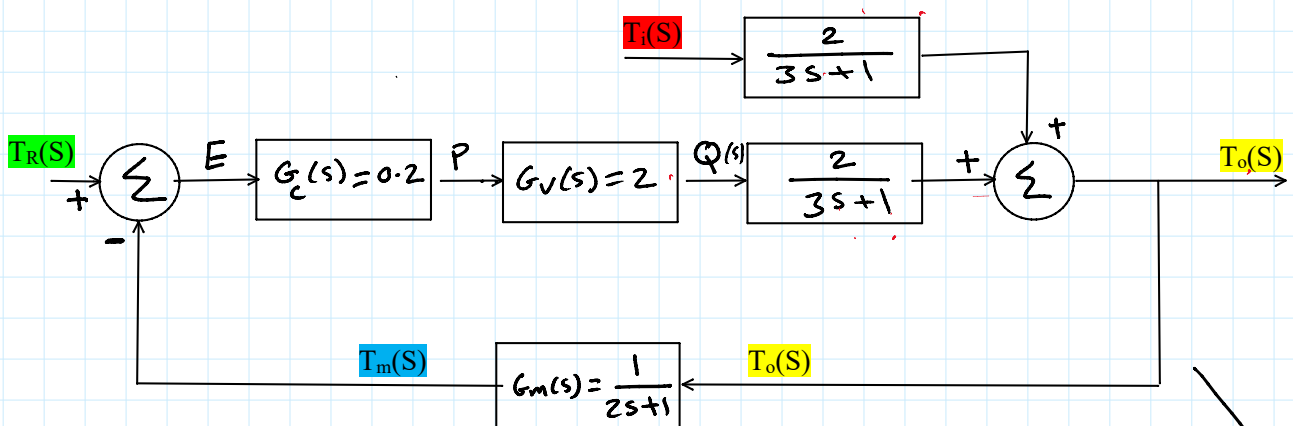

Figure 1
- 1- If $G_L(s) = G_p(s)$ then the signal Block diagram shown in figure 1 can be plotted as displayed in figure 2.